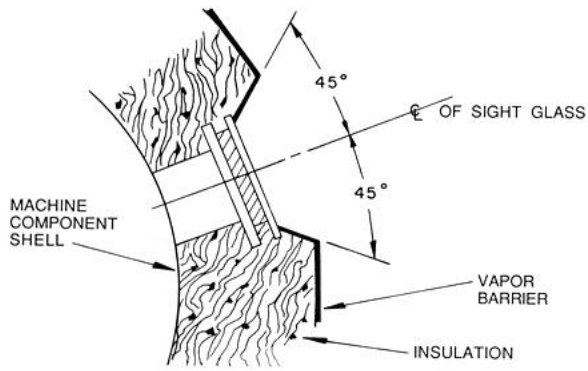

Fig. 23 – Sight Glass – Insulation Clearance
5. Bevel insulation around sight glasses to permit unimpeded observation (Fig. 23).